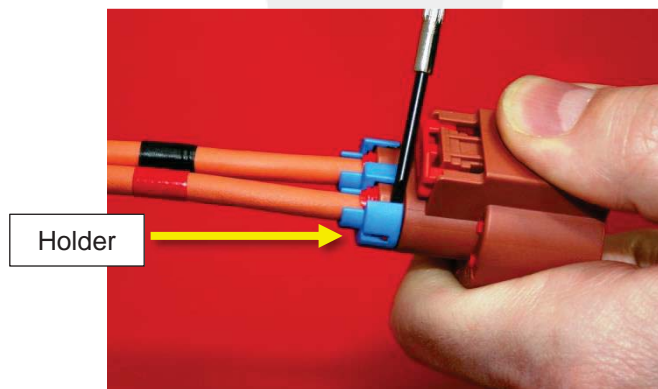

Figure 5
2. Release the wire holder from each side of the connector using a flat-bladed screwdriver approximately 2 mm wide (Figure 5).